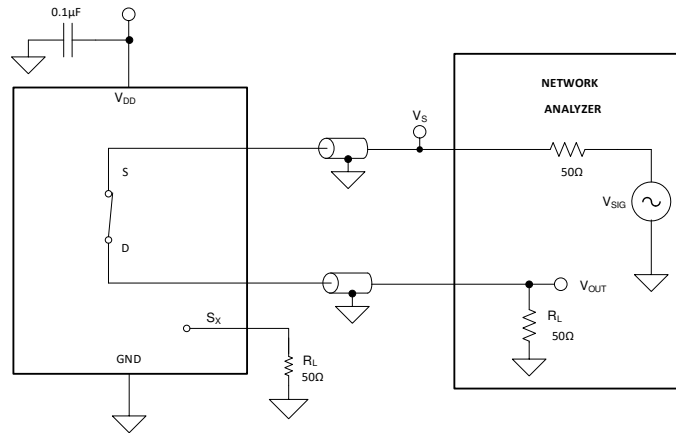

图 24. Bandwidth Measurement Setup
Bandwidth is defined as the range of frequencies that are attenuated by less than 3 dB when the input is applied to the source pin (Sx) of an on-channel, and the output is measured at the drain pin (D) of the device. 图 24 shows the setup used to measure bandwidth.